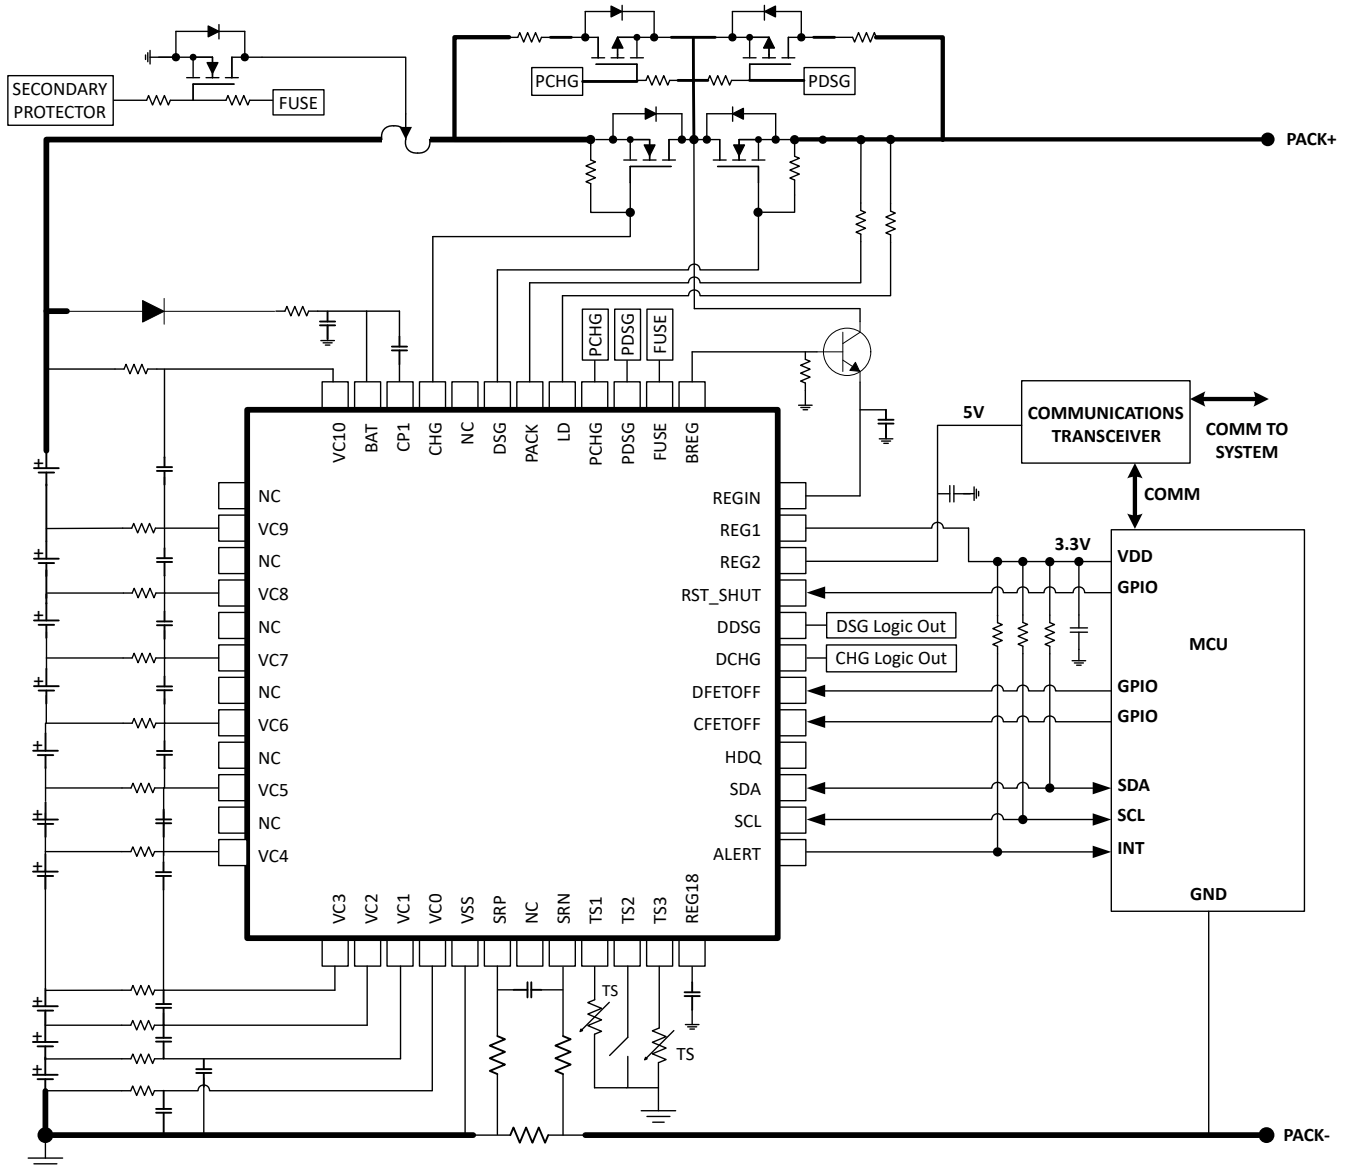

图 16-1. BQ76942 10-Series Cell Typical Implementation (Simplified Schematic)
- Power dissipation, which can be a factor of the RDS(ON) rating of the FET, the FET package, and the PCB design.
- The overdrive level of the BQ76942 device charge pump should be selected based on RDS(ON) requirements for the protection FETs and their voltage handling requirements. If the FETs are selected with a maximum gate-to-source voltage of 15 V, then the 11-V overdrive mode within the BQ76942 device can be used. If the FETs are not specified to withstand this level, or there is a concern over gate leakage current on the FETs, the lower overdrive level of 5.5 V can be selected.
- A diode can optionally be included in the collector circuit of the BJT, in order to avoid reverse current flow from BREG through the base-collector junction of the BJT to PACK+ during a pack short circuit event. This diode can be seen in Figure 16-1 at D2.